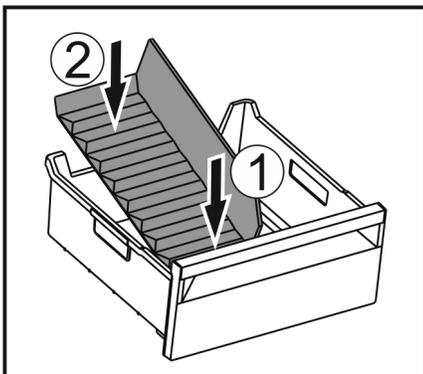

Fig. 97
- ▶ Insert the front part of the ice compartment divider. Fig. 97 (1)
- ▶ Lower the rear part of the ice compartment divider to the drawer bottom. Fig. 97 (2)